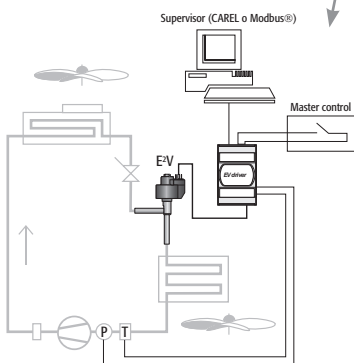

Fig. 1.3
1.2.3 Stand alone in the RS485 network with CAREL supervisor (codes EVD000*42* and EVD000*45*) or with Modbus[®] supervisor (code EVD0001460) Fig. 1.3.